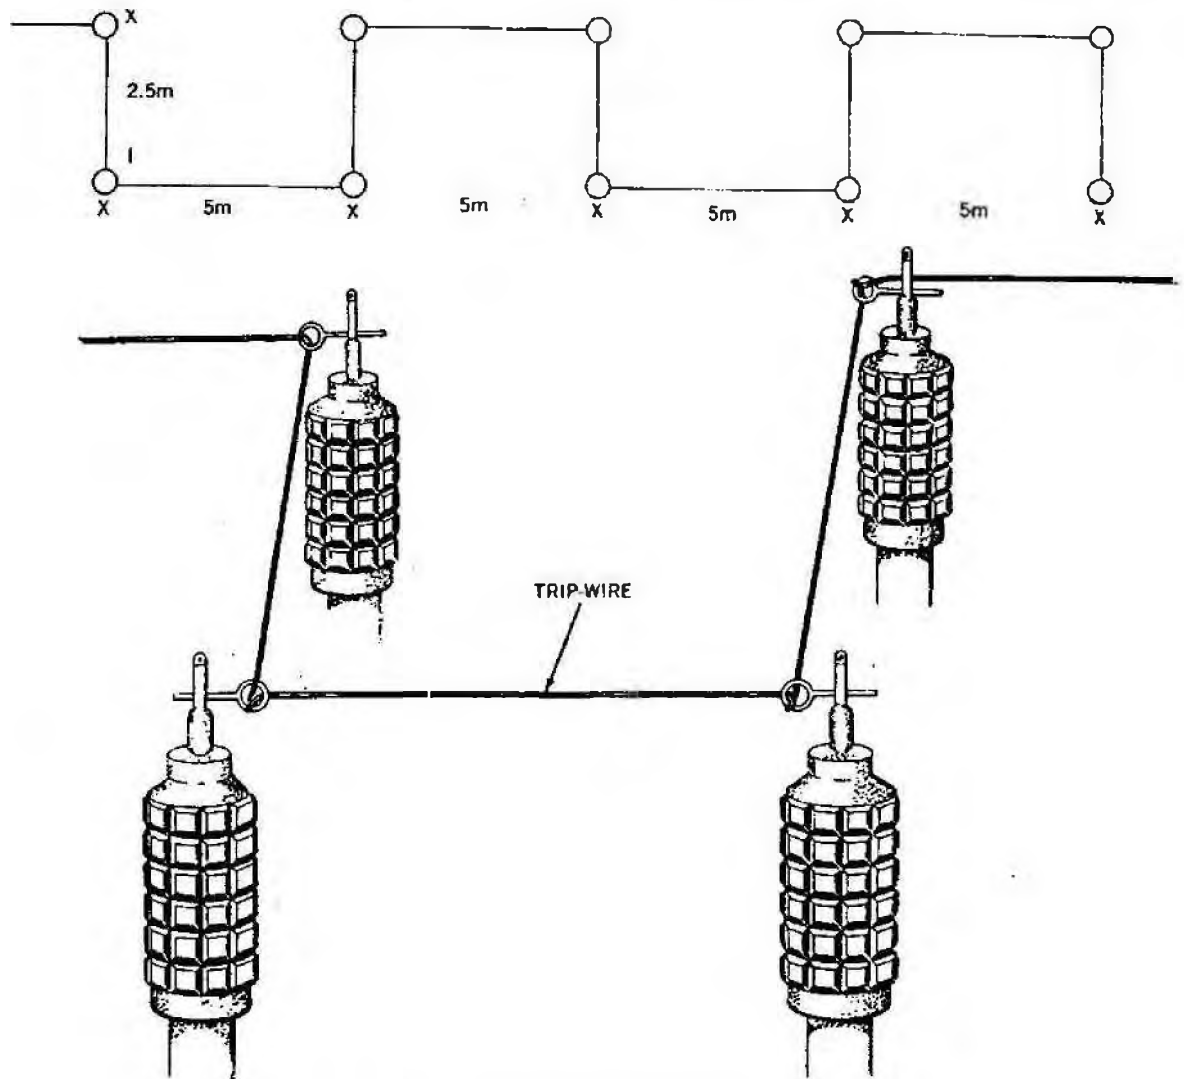

Figure 5-3. Soviet laying pattern for trip wire mines.
(3) *Laying pattern for trip wire mines.* Figure 5-3 shows a laying pattern for trip wire mines.